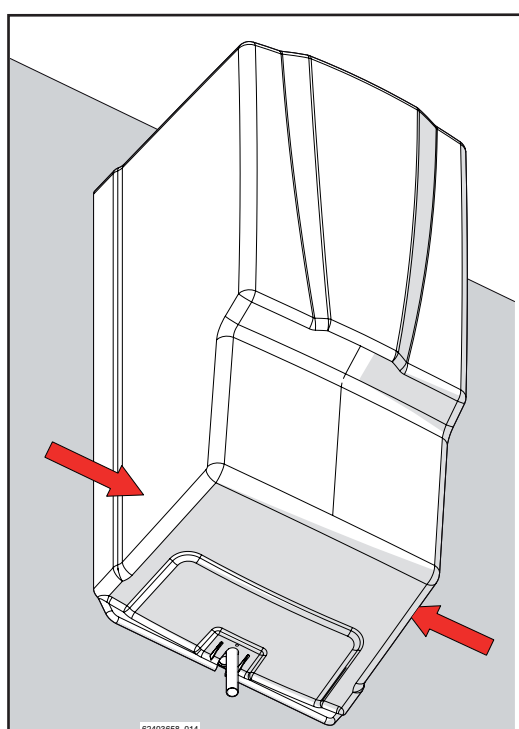
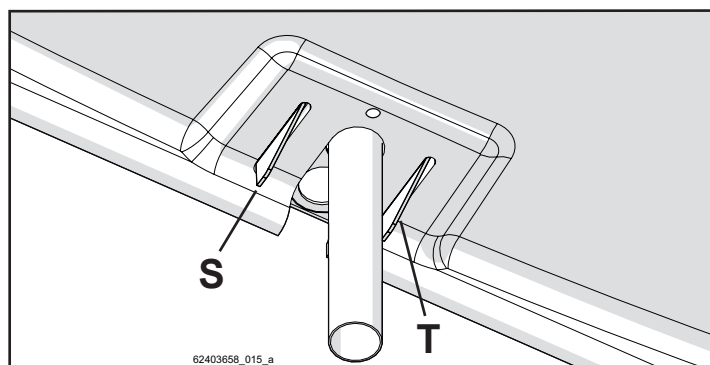
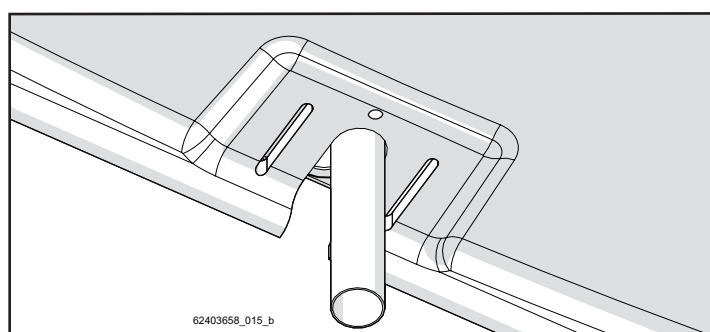

Figure 5-39
Figure 5-40
Figure 5-41
- Press on the areas marked with an arrow in figure 5-39; this takes you from the position in figure 5-40 showing two triangular points "S" and "T", to the position in figure 5-41;